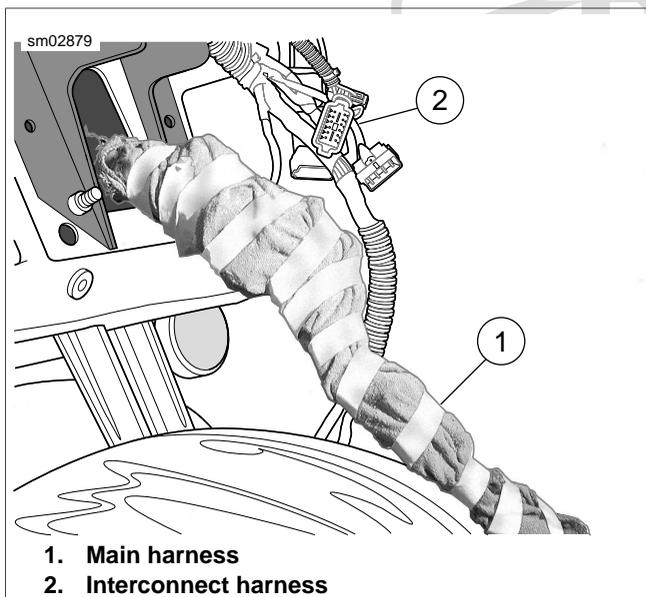

Figure 2-152. Wrap Main Harness in Shop Towels
17. Capturing all connectors, tightly wrap clean shop towels around the main harness conduit, radio antenna cable, twist grip sensor jumper harness conduit, and handlebar switch conduit, and secure with masking tape. See Figure 2-152.
5. Draw wire harnesses and conduit out tunnel of fairing bracket and pull as far forward as possible. Tightly wrap clean shop towels around the main harness conduit, radio antenna cable, twist grip sensor jumper harness conduit, and handlebar switch conduit, and secure with masking tape. See Figure 2-152.
4. Draw the harness bundle as far forward as possible, resting the end of the bundle on the front fender. See Figure 2-152.